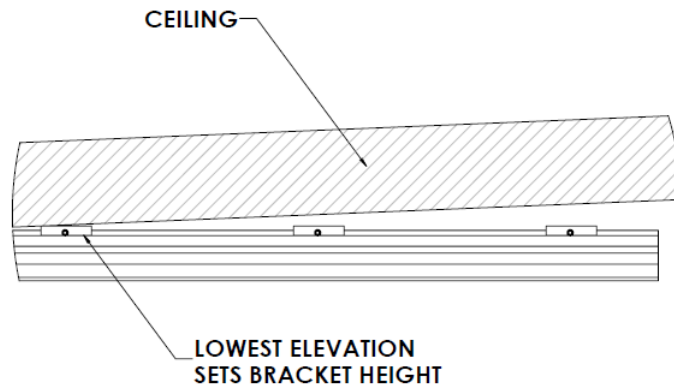

Figure 83: ***Lowest Elevation Point Where the Ceiling Brackets Will Be Installed***
- For super track systems, project the line for the fixed gate track bracket height 4 1/4” below the gate side and non-gate-side parallel track brackets (see Figure 83).
- For TrackPlus systems, project the line for the fixed gate track bracket height 7 3/16” below the gate side and non-gate-side parallel track brackets (see Figure 83).